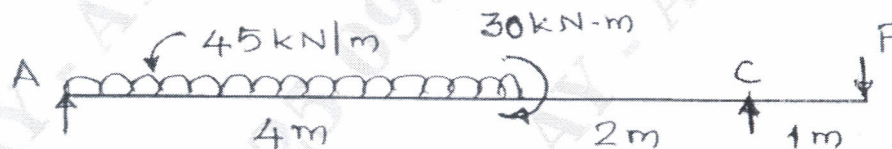

Fig. Q. 6(b)
- b. For the beam shown in fig. Q. 6(b) find the load P to have equal reactions at A and C. Draw the SFD and BMD indicating values at significant points. Locate the point of contraflexure. (12 Marks)